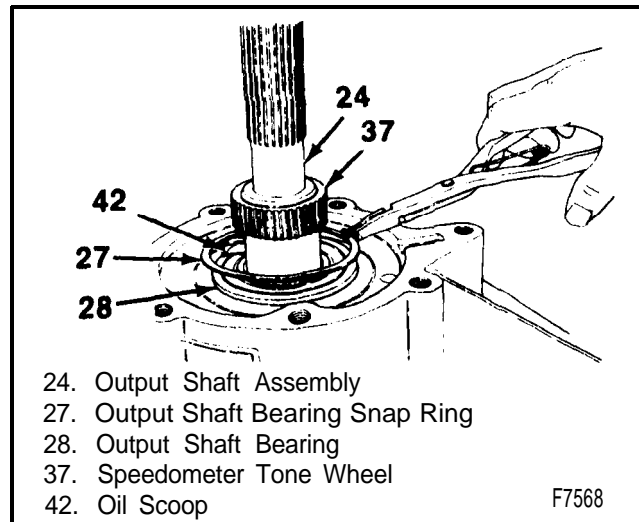

Figure 15 - Removing the Output Shaft Rear Bearing
6. Planet carrier assembly (22) and the planet carrier assembly thrust washer (23) from the output shaft assembly (24).
7. Extension housing bolts (25) from the extension housing (8).
8. Vent tube (26) from the extension housing (8).
9. Extension housing (8) from the rear case half (10).
- Turn the rear case half (10) over and support the output shaft assembly (24) from the inside of the rear case half (10).
10. Output shaft bearing snap ring (27) from the output shaft bearing (28) (figure 15).
11. Gear ring snap ring (29) from the gear ring (30).
12. Output shaft assembly (24) from the gear ring (30).